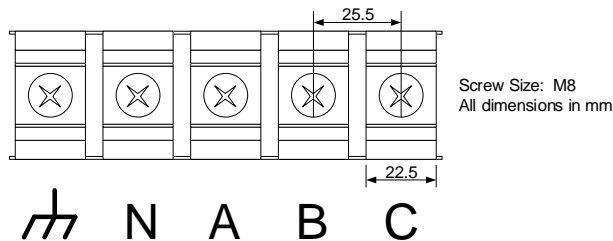

Figure 12 - AC Terminal Block Connections
4. Connect the ground cable as well as the three utility phase cables to the AC terminal block as shown in Figure 12.
5. The neutral connection (N) should be connected or left open based on the AC connection type – see the next section for details.